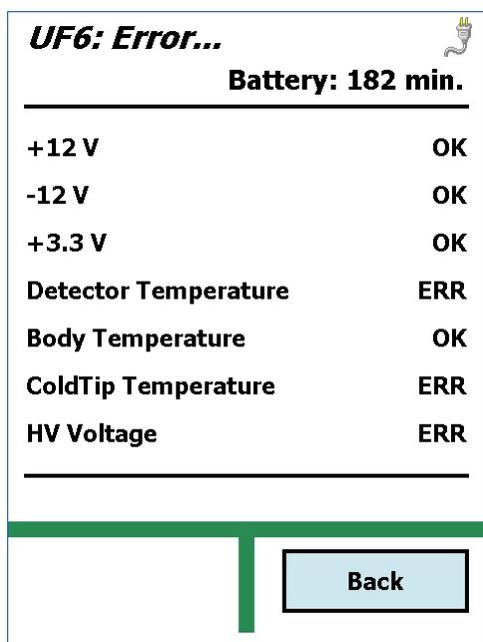

Figure 18. Hardware Status Readouts for Warm Detector.
- Tapping **Settings/State of Health** will show that the detector temperature and cold tip temperatures are too high, and the detector high voltage is off. Figure 18 shows a typical State of Health screen for a warm detector.